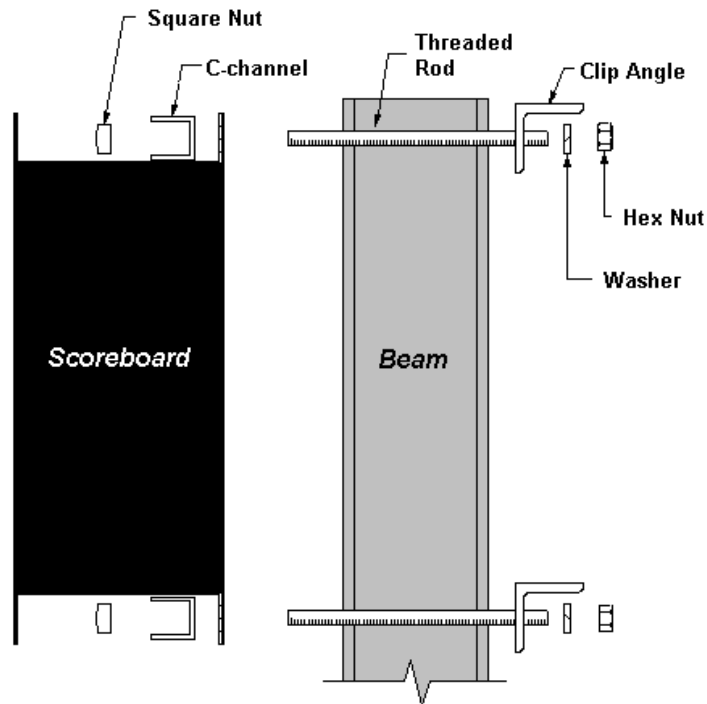

Figure 5: Mounting with C-channel, Side View
1. Place the C-channel against the upper and lower rear flanges of the scoreboard cabinet, as shown in **Drawing A-55101** and **Figure 5**.